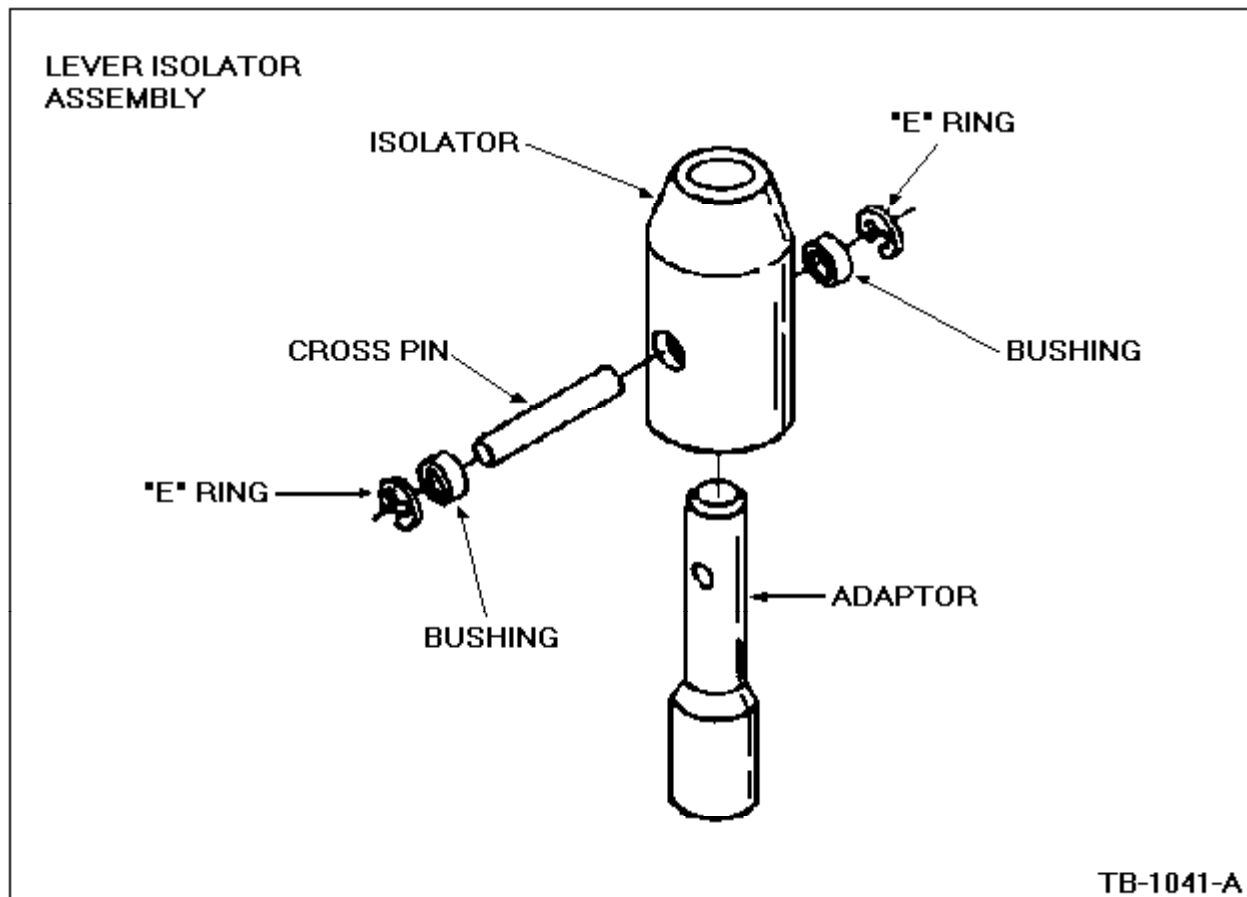

Figure 5 - Article 89-5-18
- a. Remove the "E" ring, Figure 5.
11. Re-install the upper gear shift lever to the lower gear shift lever by reversing Step 9 a through c, Figure 5.